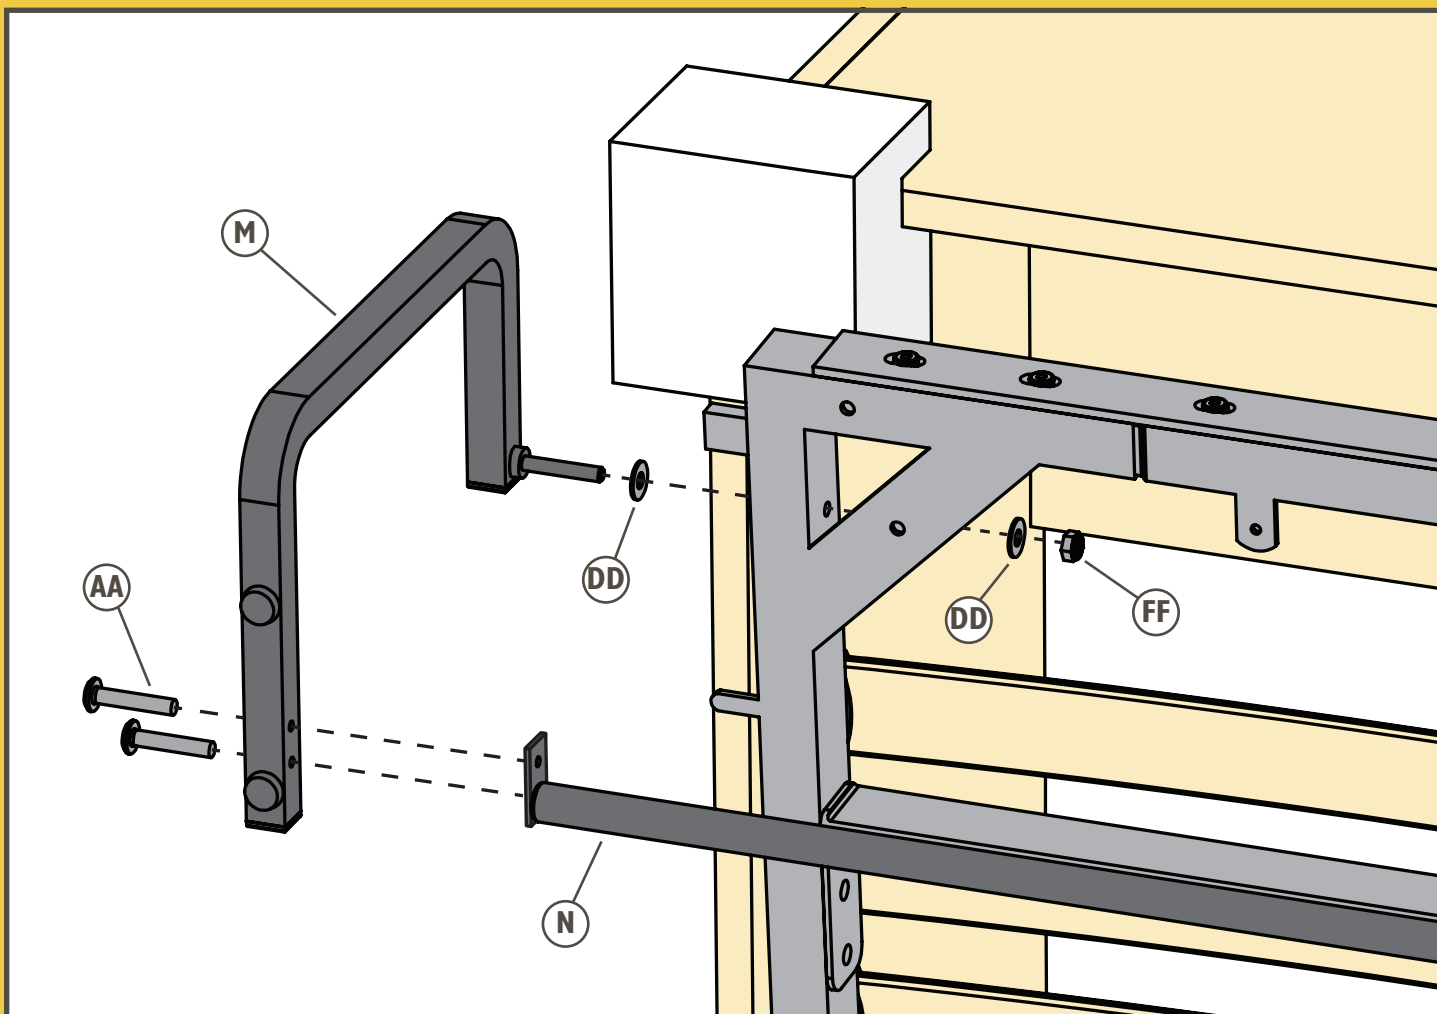

Fig. 15
7. With the Temporary Stops (GG) still holding the top of the frame out from the cabinet, fit a Nylon Washer (DD) onto the threaded stem of the left Leg (M) and fit the threaded stem into its hole in the frame. Fit another Nylon Washer onto the stem and secure with an M8 Lock Nut (FF). Do not overtighten, or the leg might not pivot correctly. **Fig. 15.**
8. Repeat Step 7 for the right Leg (M).
9. Attach the Leg Tube (N) to the Legs (N) with four M6 x 30mm Screws (AA), driven with #4 Allen Key (NN). Drive the Screws through the Legs into tapped holes in the Leg Tube. **Fig. 15.**